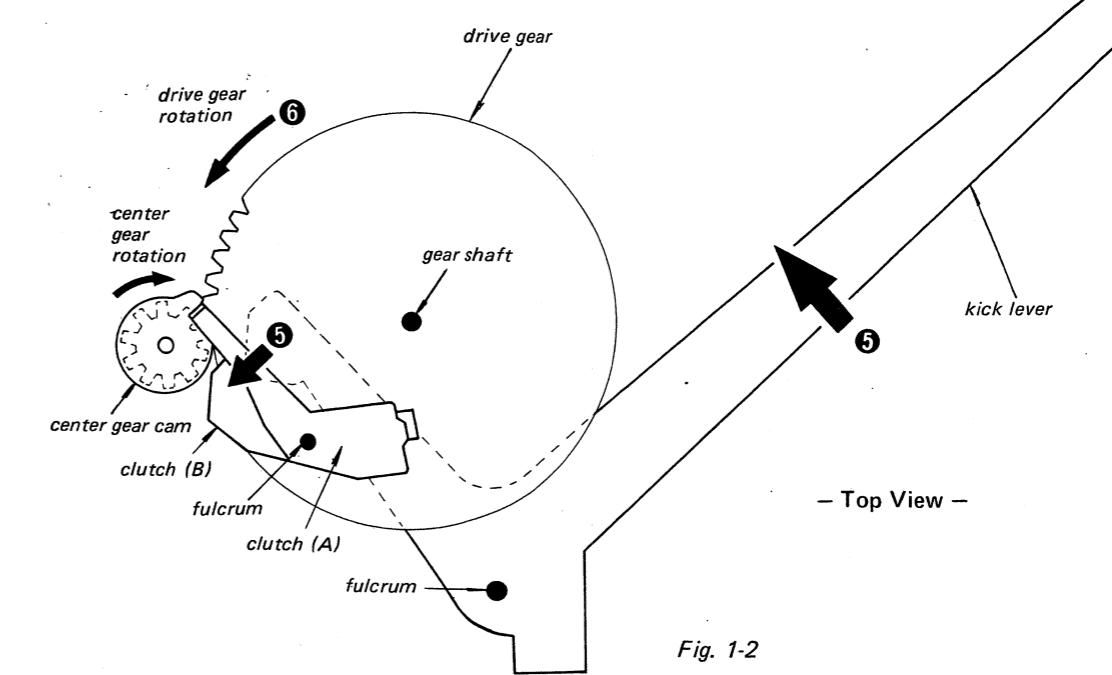

Fig. 1-2
⑤ The kick lever pushes the clutch (A) and the clutch (B). The center gear cam pushes the clutch (A). (Fig. 1-2)
⑥ The drive gear rotates counterclockwise.
(Fig. 1-2)